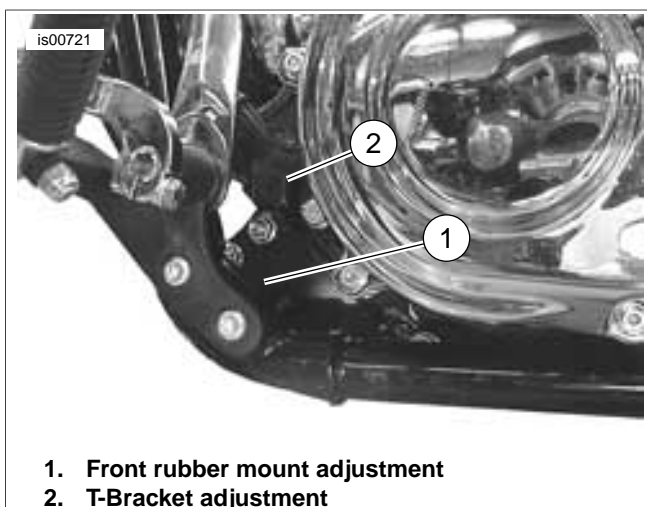

Figure 7. Front Leverage Points (Left Side Shown, Right Side Similar)
3. See Figure 7. Using a suitable tool wrapped in a clean, soft cloth, between the front mount and frame (1), move the rear wheel to the left or right, as necessary, to provide clearance for the gauge.
6. See Figure 7. Use a suitable tool between the frame and T-bracket (2). Move the rear wheel to the left or right, as necessary, to provide clearance for the gauge.